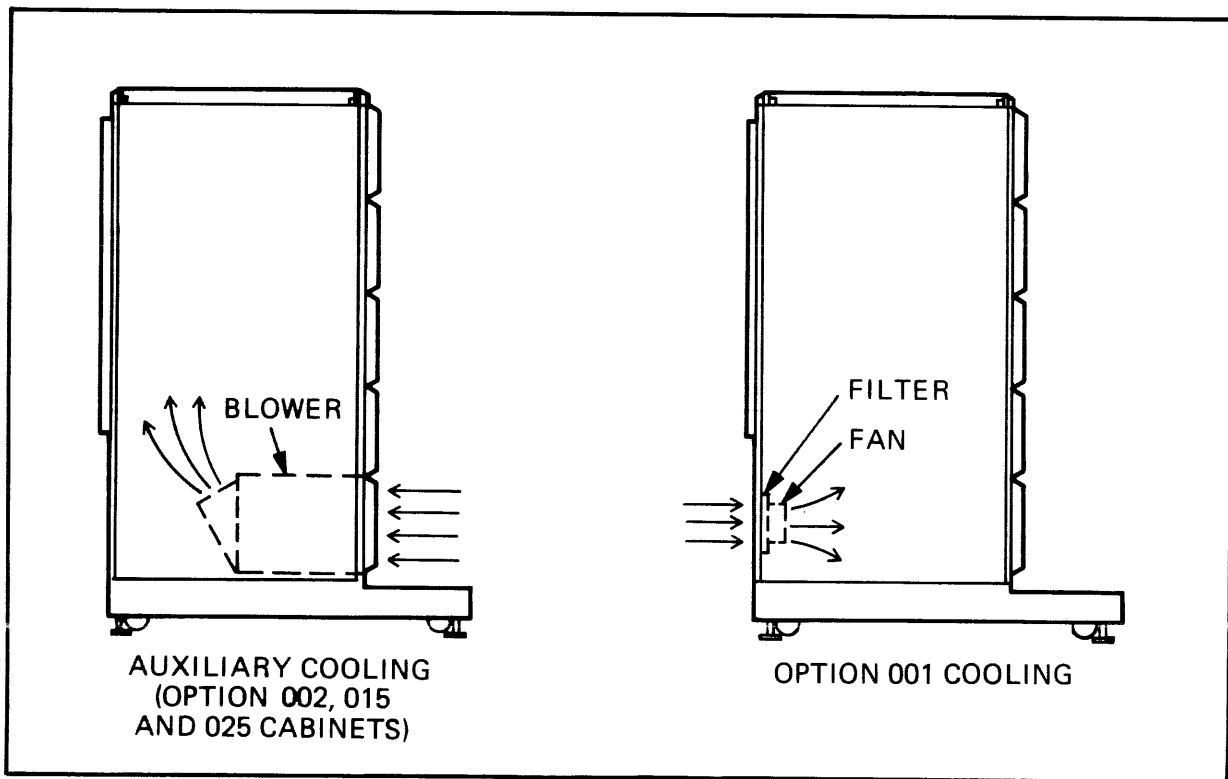

Figure 2-6. Cooling Options
**Auxiliary Cooling.** The standard cabinet and the option 002, 015, and 025 cabinets have a blower (figure 2-6) mounted just behind the bottom front door. The cabinet door on each of the options have a grille in place of the normal solid panel. The grille has no lock, but is held in place magnetically. The blower case has a deflection plate at the rear that directs the air upward toward the equipment. The rated capacity of the blower is 800 cubic feet per minute (cfm).